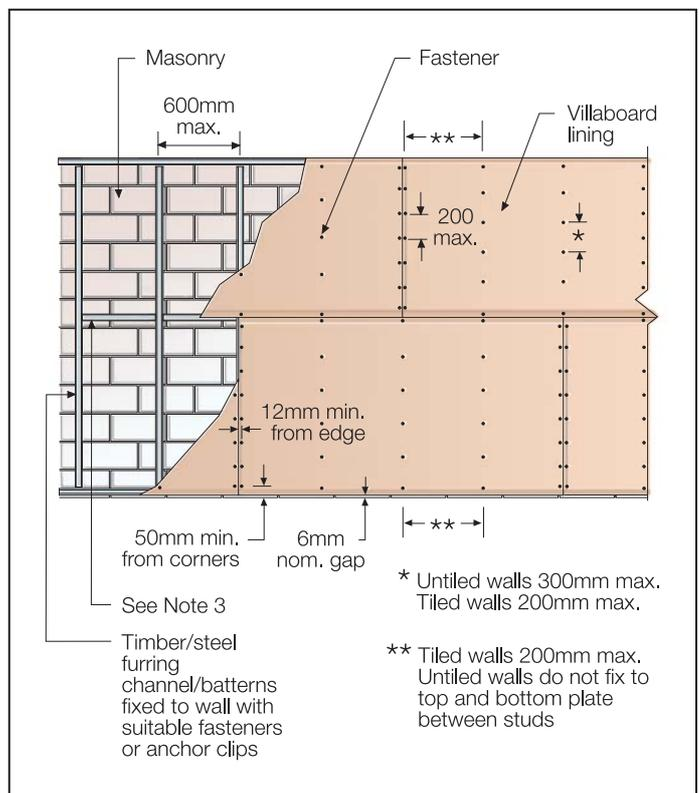

FIGURE 14 BATTEN / FURRING CHANNEL - HORIZONTAL LAYOUT
5. Use suitable masonry fasteners to securely fix timber/steel battens or recessed furring channels as shown in figure 14.